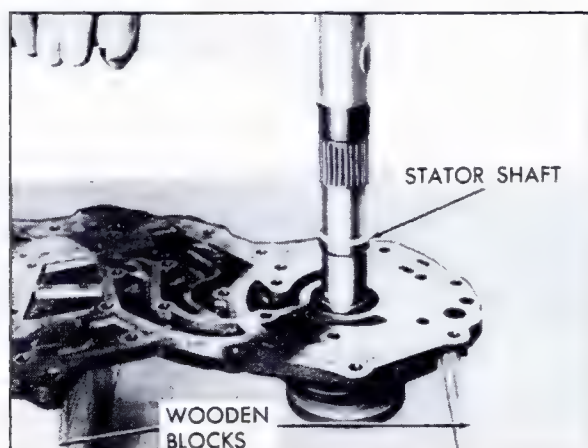
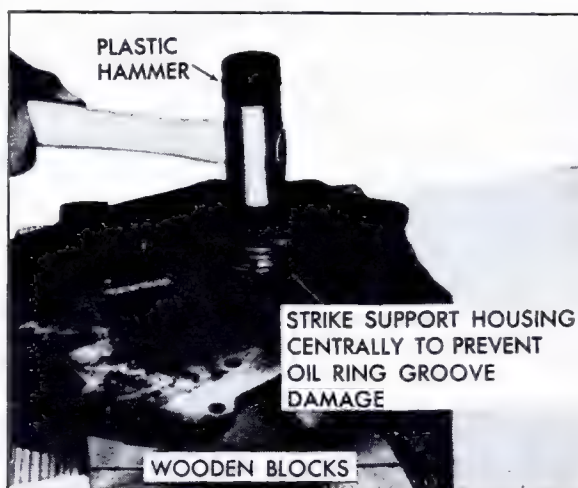

Fig. 7-168 Removing Drive Sprocket Support
Fig. 7-169 Removing Driven Sprocket Support
b. Support cover plate on wooden blocks and using a plastic mallet, vigorously strike the stator shaft of the drive sprocket support, Fig. 7-168, and the hub of the driven sprocket support, Fig. 7-169, until they are removed from their pump cover plate bores.